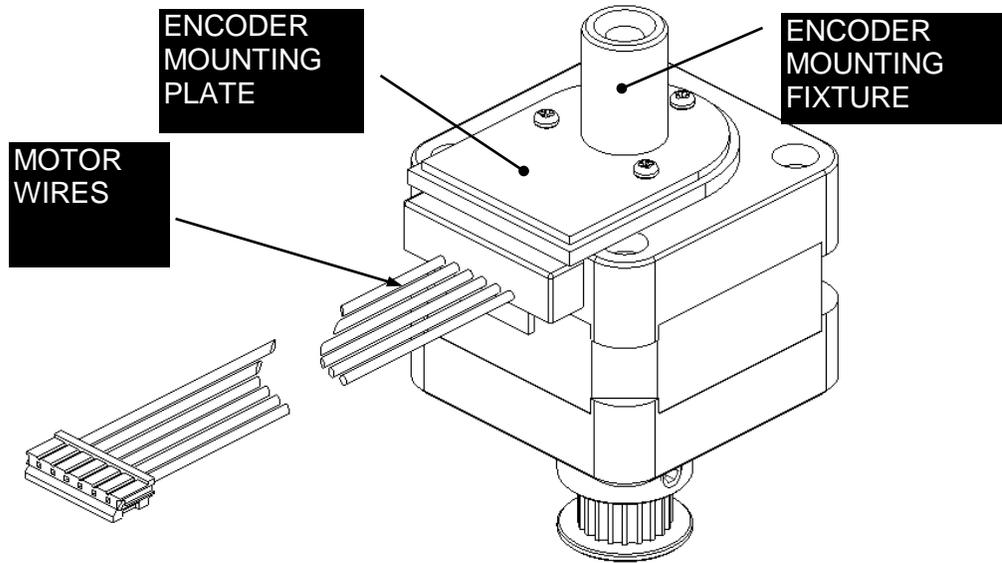

Figure 12-45: The Encoder Mounting Plate
4. Remove the Encoder Mounting Plate (Figure 12-45) by removing the three screws (Figure 12-45). The fixture is not required for removal but is needed when reassembling the system. The fixture should be centralized around the pulley idler shaft.